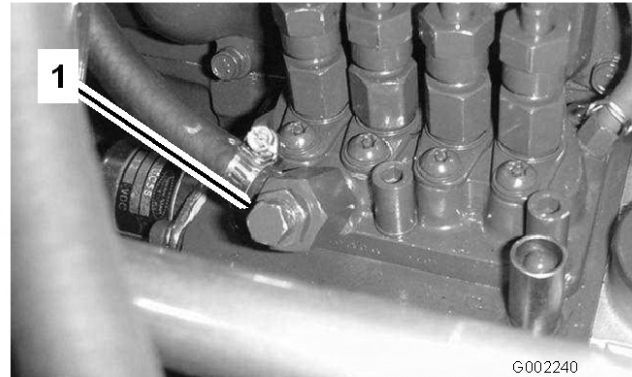

Figure 43
7. Open the air bleed screw on the fuel injection pump (Figure 43).